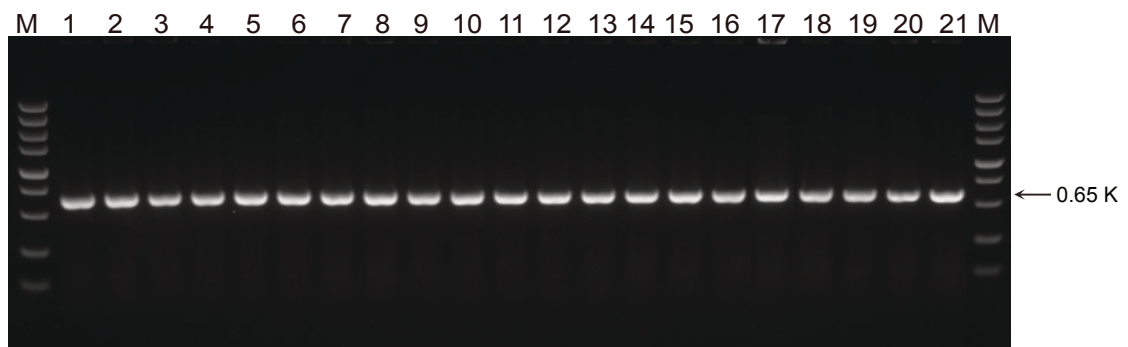

Fig 8. Agarose Gel Electrophoresis of Colony PCR Products
- ◇ Pick several mono-colonies from the plate of recombination reaction for colony PCR with at least one common sequencing primer of the vector. If the colony is positive, there should be a band which length is slightly bigger than that of insert (Fig 8).